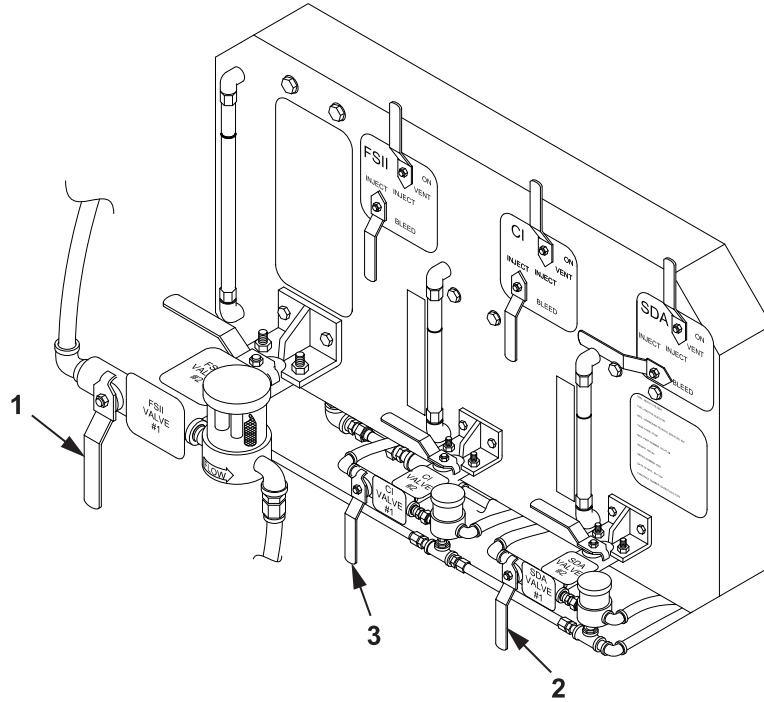

Figure 1. Fuel Additive Injection Assembly Supply Valves.
2. Close the FSII, CI and SDA VALVE #1 (Figure 1, Item 1, 2, 3).